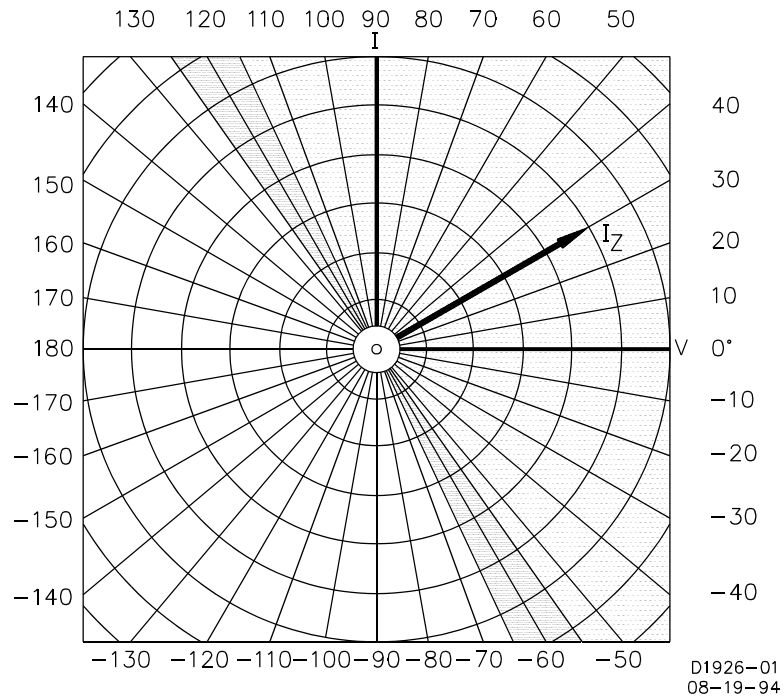

Figure 5-10.  $\alpha = 60^\circ$
- Step 9. Vary the phase angle of the input current through  $360^\circ$  and record the phase angles within which the INHIBIT LED is OFF. When shown on a polar plot, the result should be a straight line (through the origin) from a  $-60^\circ$  to  $+120^\circ \pm 5^\circ$ . This plot defines the trip region as shown in Figure 5-10.